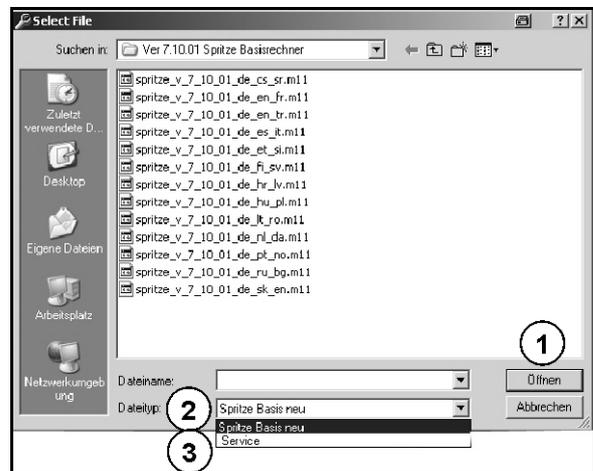

Fig. 7
→ The file selection window opens (Fig. 7).
- **Computer label (Fig. 7/2):**
If you select the computer label file type (Fig. 7: E.g. "Sprayer, basic new") only files that can be used for this type of computer are displayed. It is therefore not possible to interchange the software.
- **Service (Fig. 7/3):**
4. After selecting the software, confirm your selection by clicking on "Open" (Fig. 7/1).